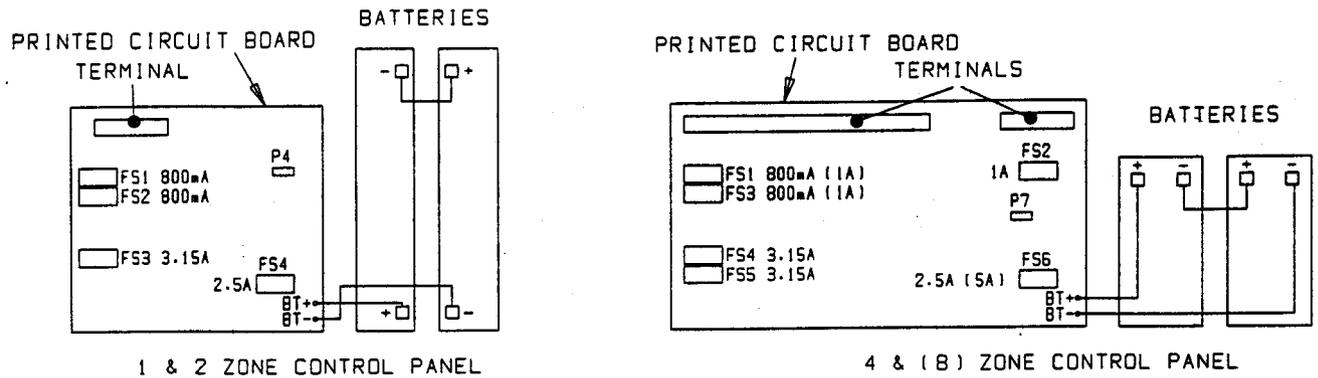

Figure 4 Fuses and Battery Connections
a) When the system is to be commissioned, the batteries should be connected as shown in *Figure 4* and the mains power supply connected. Ensure the batteries are securely fixed to the back of the case by using the sticky backed pads provided.